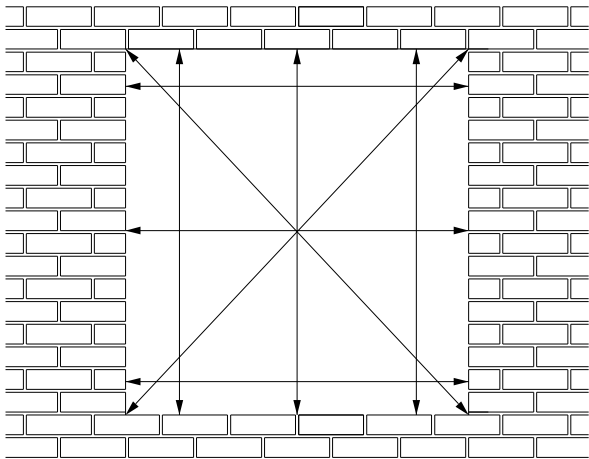

fig.1 Measurement of openings
- A check should be made to confirm there are no structural defects to the aperture. Openings are measured in line with the pattern shown in fig.1